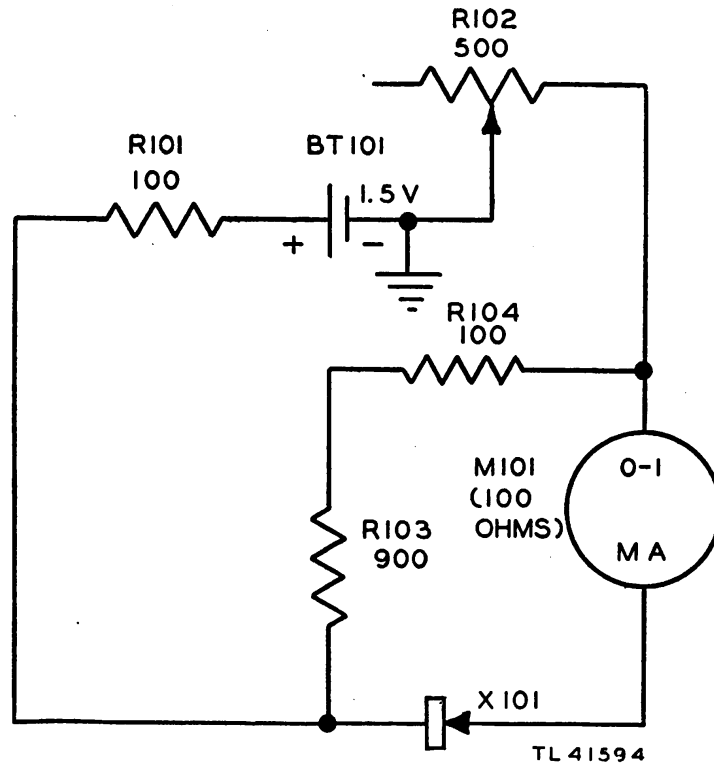

Figure 10. Circuit for back current measurements, simplified schematic diagram.
(6) BACK CUR Position (fig. 10). When the selector switch is rotated to this position, the circuit selected is the same as in subparagraph